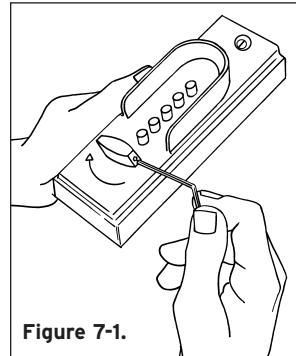
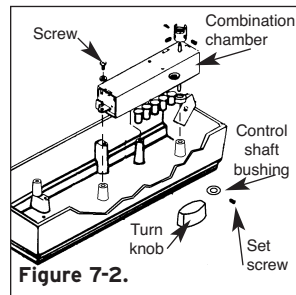
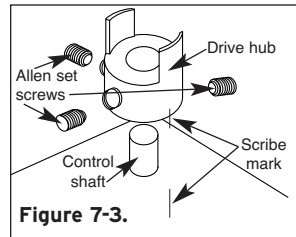

Figure 7-1.
Figure 7-2.
Figure 7-3.
- 3) Use a $\frac{1}{16}$ " Allen wrench to loosen the set screw securing the turn knob (see Figure 7-1). Remove the turn knob and bushing (see Figure 7-2).
Before going to Step 4, scribe a mark on the drive hub and combination chamber cover to aid in reassembling the drive hub to its original position (See Figure 7-3).
- 4) Using the $\frac{5}{64}$ " Allen wrench provided, remove the three Allen set screws from the drive hub so you can remove the drive hub from the back side of the combination chamber (see Figure 7-3).
- 6) Remove the two screws securing the combination chamber, then remove the chamber from the front lock assembly (see Figure 7-2).
- 20) Place the drive hub on the control shaft and insert the three Allen screws and secure **(see Figure 7-3)**. Place the combination chamber into the front lock assembly and attach it with the two screws **(see Figure 7-2)**.
- 21) Place the bushing and turn knob back on the chamber shaft and tighten securely **(see Figure 7-2)**